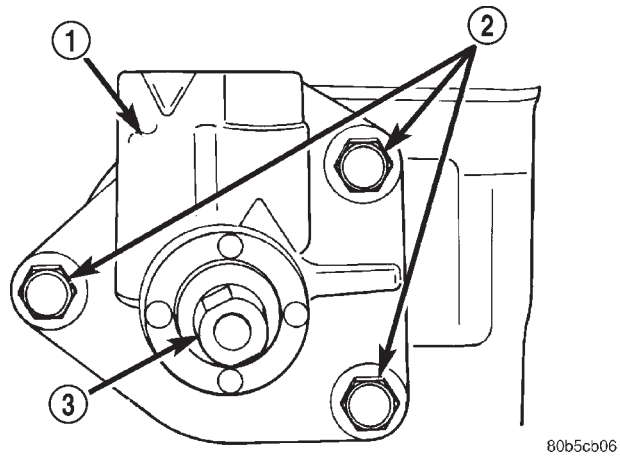

Fig. 18 Stub Shaft Housing
(5) Remove the pitman shaft cover o-ring.
(6) Remove stub shaft housing bolts (Fig. 18).